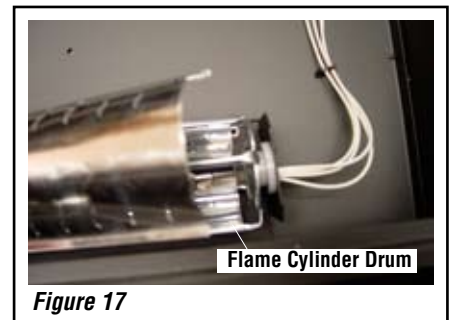

Figure 17
- iii. Locate flame cylinder drum (see **Figure 17**). Squeeze one half of drum cylinder until its top edge clears the top drum track. Remove the bottom edge of the cylinder drum from the bottom drum track. Once you have removed one half of the drum cylinder, you will have access to the 2 light bulbs (see **Figure 18**). **Note: do not exert excessive pressure on the drum cylinder as this may cause damage.**